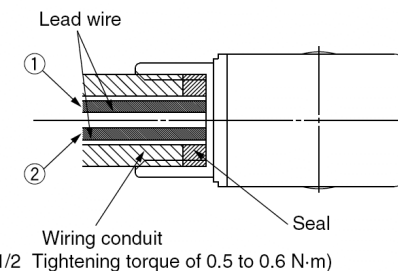

Figure 12
- Tighten conduit to torque shown in Figure 12.